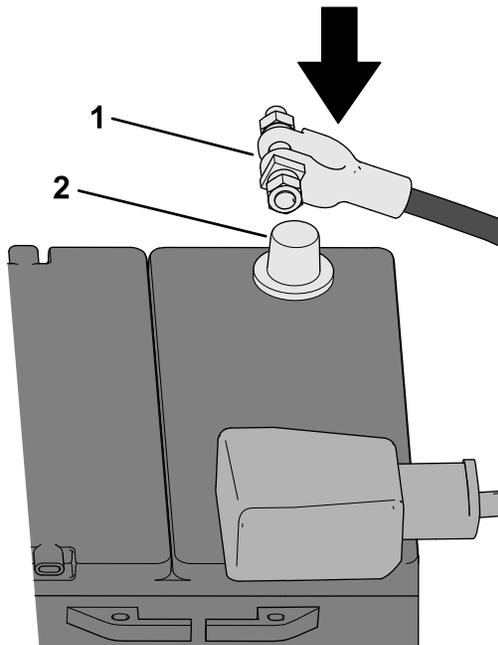

Figure 44
1. Connect the negative (-) battery cable to the battery post (Figure 44).